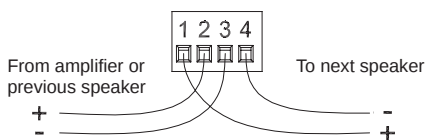

Figure 7:
2. Daisy-chaining. Connect the wire pair of the subsequent speaker to pins 1 and 4. When one input connector is removed, subsequent speakers will also be disconnected. See Figure 7.